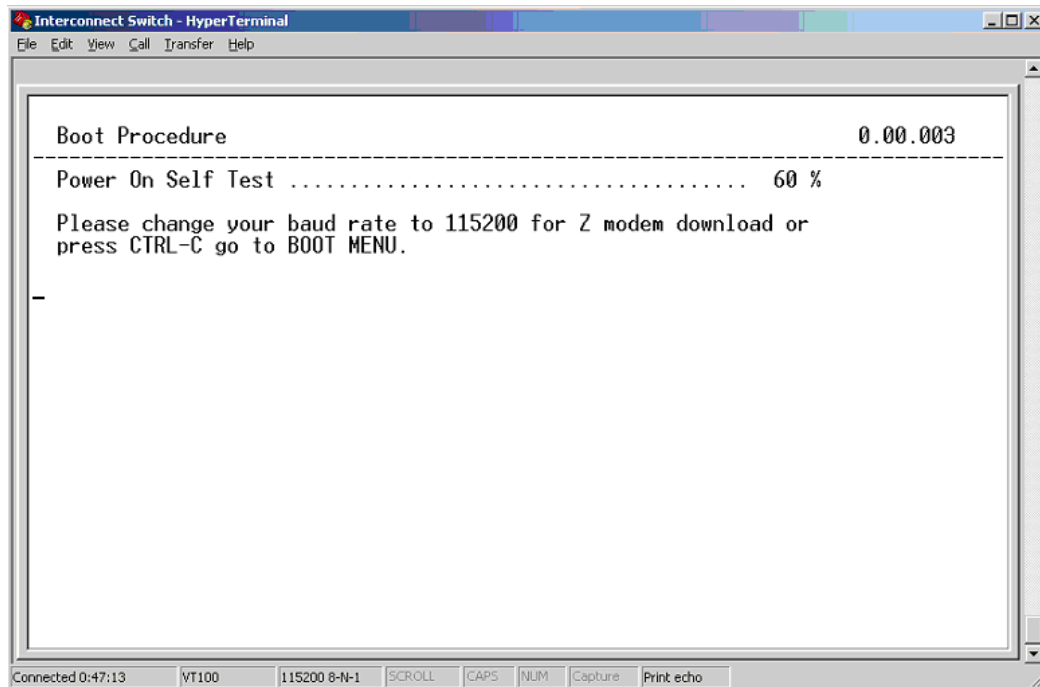

Figure F-2: Download mode message
8. While the switch module is rebooting, press the **pound (#)** key again to force the switch module into download mode. The download mode message is displayed. (Refer to Figure F-2.)